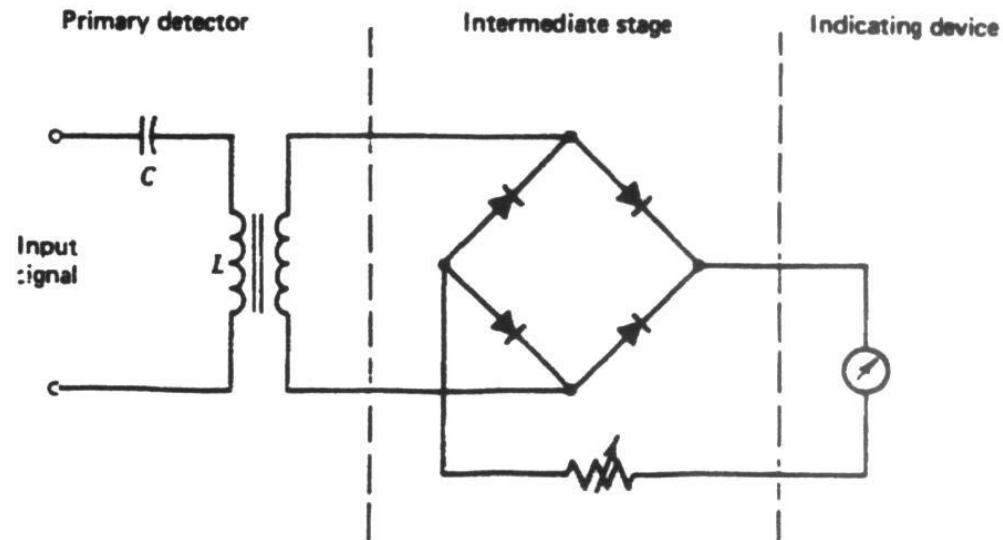

Fig. 3 Basic wave analyzer circuit
- A very basic wave analyzer is shown in Fig. 3. The primary detector is a simple LC circuit which is adjusted for resonance at the frequency of the particular harmonic component to be measured. The intermediate stage is a full-wave rectifier, and the indicating device may be a simple do voltmeter that has been calibrated to read the peak value of a sinusoidal input voltage.
- Since the LC filter in Fig. 3 passes only the frequency to which it is tuned and provides a high attenuation to all other frequencies. many tuned filters connected to the indicating device through a selector switch would be required for a useful wave analyzer.